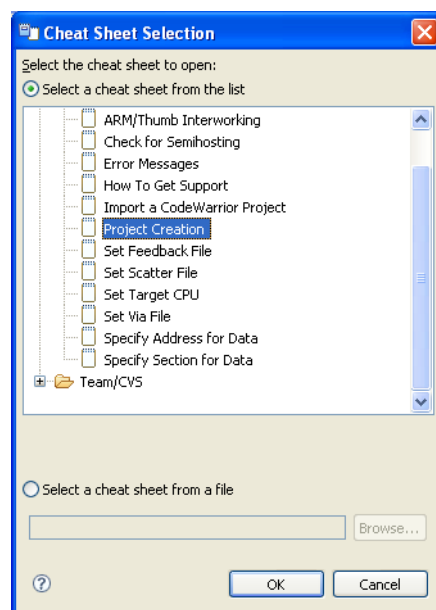

Figure 2-16 Selecting a cheat sheet
2. Select a cheat sheet from the list or use **Browse...** to select from a file, see Figure 2-16 on page 2-23. Click on **OK**.